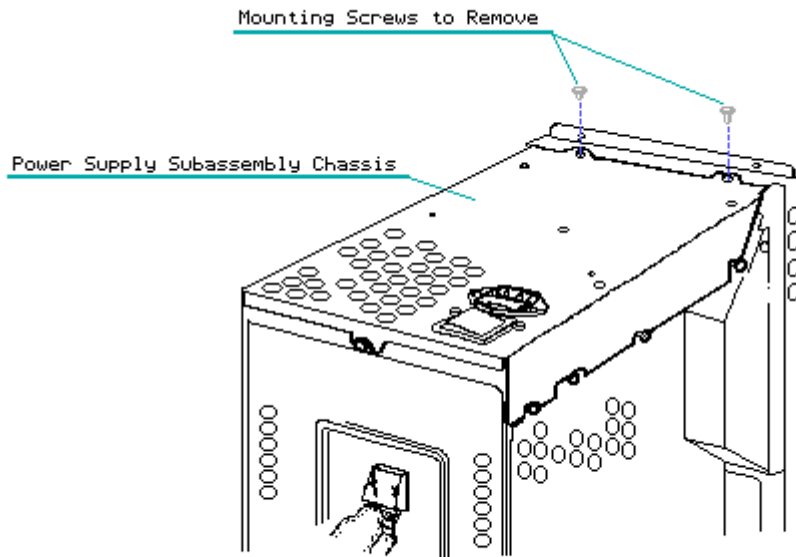

Figure 7-18. Removing the Power Supply Mounting Screws
4. Remove only the two screws indicated in Figure 7-18.